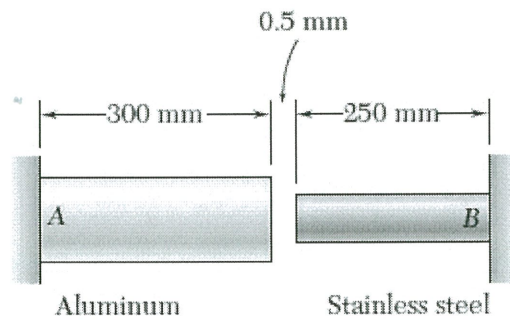

FIGURE Q4
- Q4** **FIGURE Q4** shows at temperature 21°C, a 0.5 mm gap exists between the ends of the aluminium and stainless steel rods. The properties of the rods are given in **TABLE Q4**. At a later time when the temperature has reached 160°C, determine